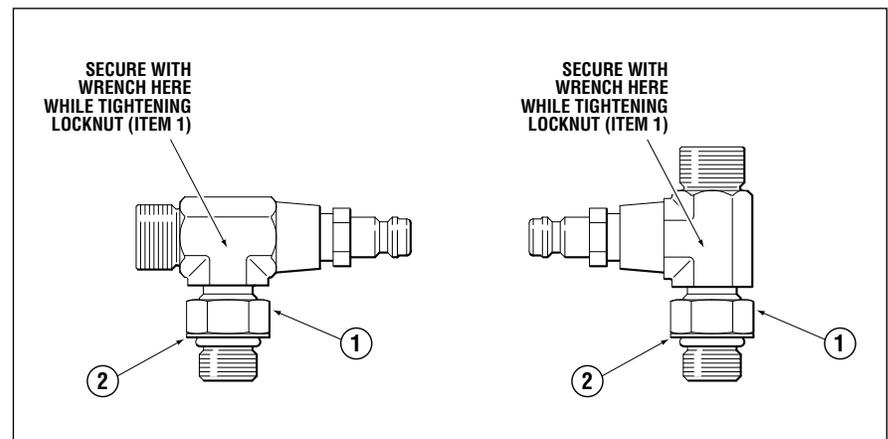

Figure 6
1. Back off lock nut (item 1, figure 6), counter-clockwise, until it stops.
2. Thread fitting into cylinder body until fitting washer (item 2, figure 6) contacts the face of the cylinder port. Tighten hand tight, **DO NOT TORQUE FITTING INTO GLAND.**
4. While holding fitting with a wrench, tighten the locknut (item 1, figure 6) and torque to 40–43 ft-lb.
**Failure to properly tighten the locknut (item 1, figure 6) may lead to loss of steering control. Loss of steering control may result in unpredictable boat behavior, collision with an obstacle and/or ejection from vessel, leading to property damage, personal injury and/or death.**